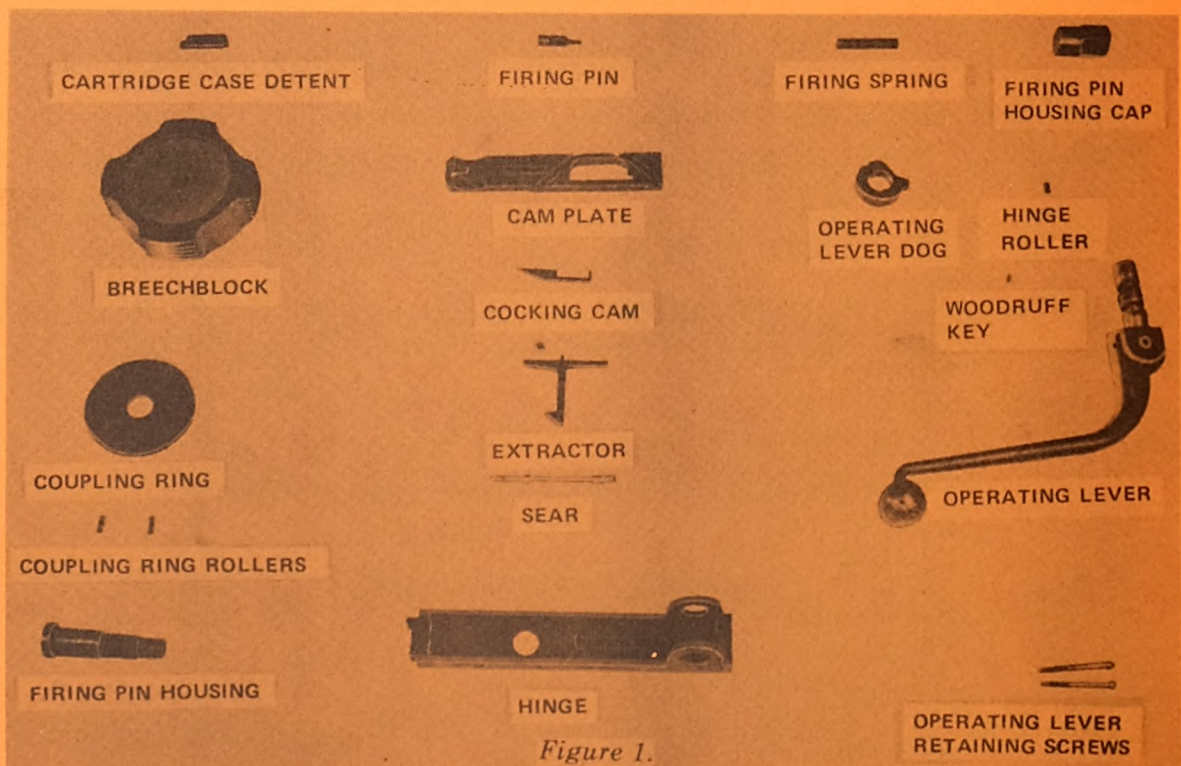
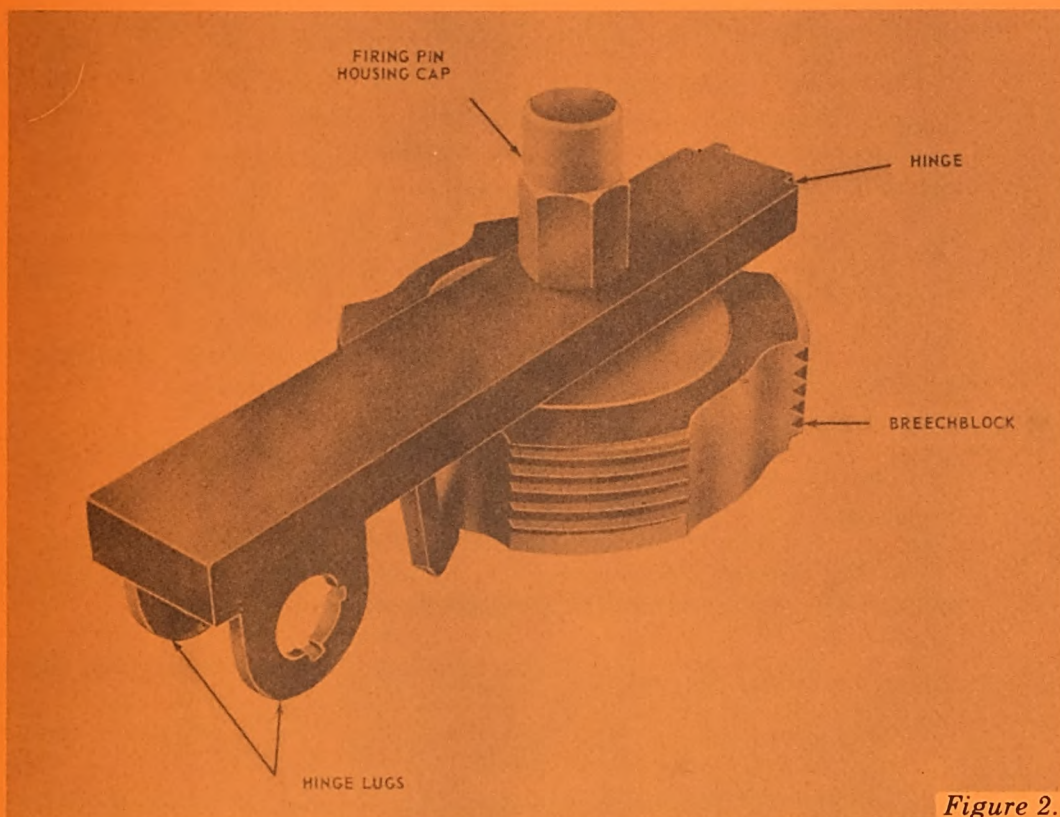

Figure 1.
Figure 2.
a. Disassembly (Figure 1)
(1) Opening the breech. Open the breech by depressing the breech operating lever and rotating it clockwise 180 degrees. Examine the chamber to be certain the rifle is clear. Close, but do not lock the breech.
(2) Removal of breech operating lever assembly. Using the 3/16-inch Allen wrench on the spotting gun adjusting wrench, remove the operating lever retaining screws from the hinge block. Support the hinge with one hand and lift the operating lever up about 2 inches. Take out the Woodruff key. Remove the operating lever from the hinge block.
(3) Removal of breechblock and hinge assembly. Grasp the hinge with the left hand and support the operating lever dog with one finger. Hold the firing pin housing cap with the right hand and remove the breechblock and hinge assembly. Lift out the operating lever dog and hinge roller. Place the breechblock and hinge assembly face down on a flat surface with the extractor protruding over the edge of the surface (figure 2).